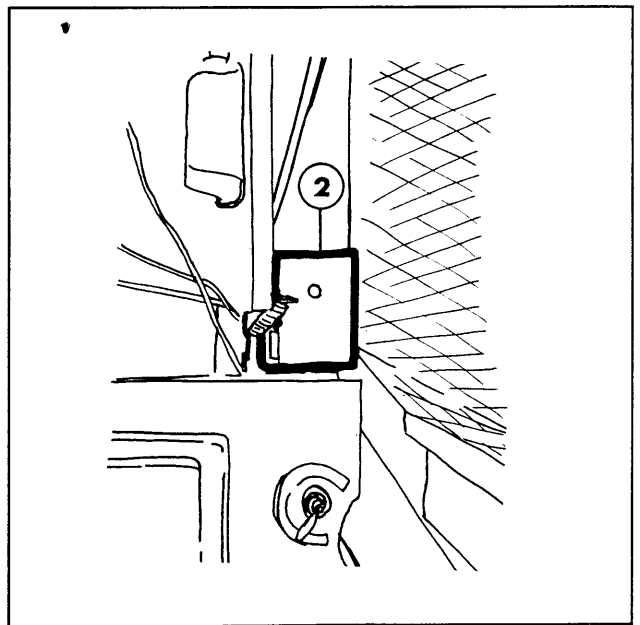

Figure 2
6. Locate the factory 2-post ROPS mounting tubes. Take the left rear bracket (2) and slide it into the left tube, with the ROPS mounting plate towards the rear and outside. Bolt the bracket to the tube using the factory bolts removed in step 1. (see Figure 2)